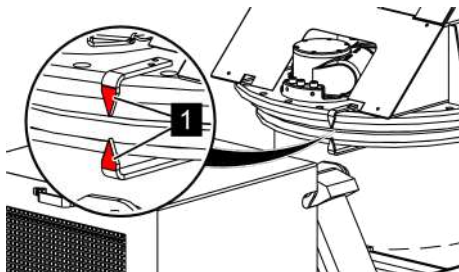

Fig. 124: Transport position
7. ➔ The platform is aligned in transport position if the red arrows (Fig. 124/1) on the rotating assembly meet.